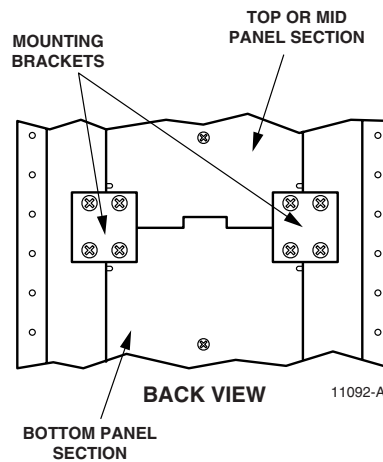

Figure 6. Mid or Top Panel Installation
5. Position the panel section above the section that has already been installed, as shown in Figure 6. Secure it to the front flange of the rack using machine screws.